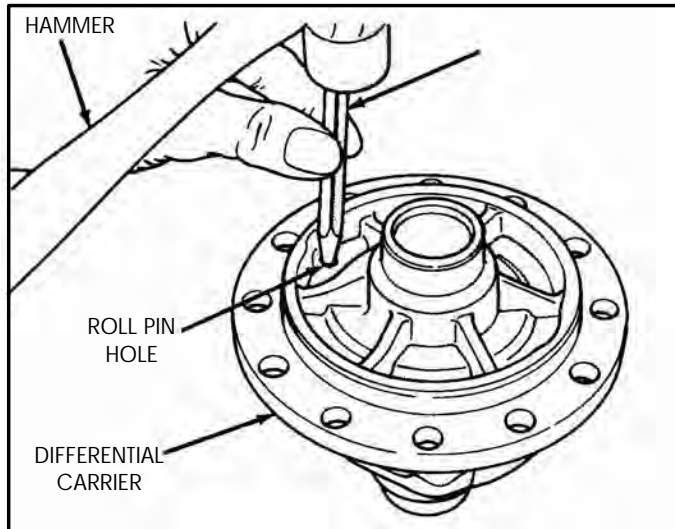

Figure 149
4. Remove or install pinion gear cross shaft roll pin with a pin punch and hammer, as shown in Figure 149.